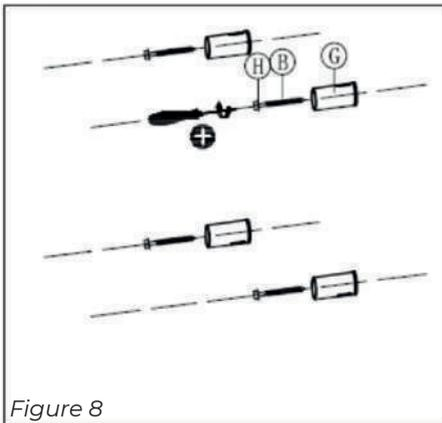

Figure 8
7. Screw the four outer wall brackets with self-tapping screws (Figure 8, pos. B) and spacer rings (Figure 8, pos. H) in to the four plugs.